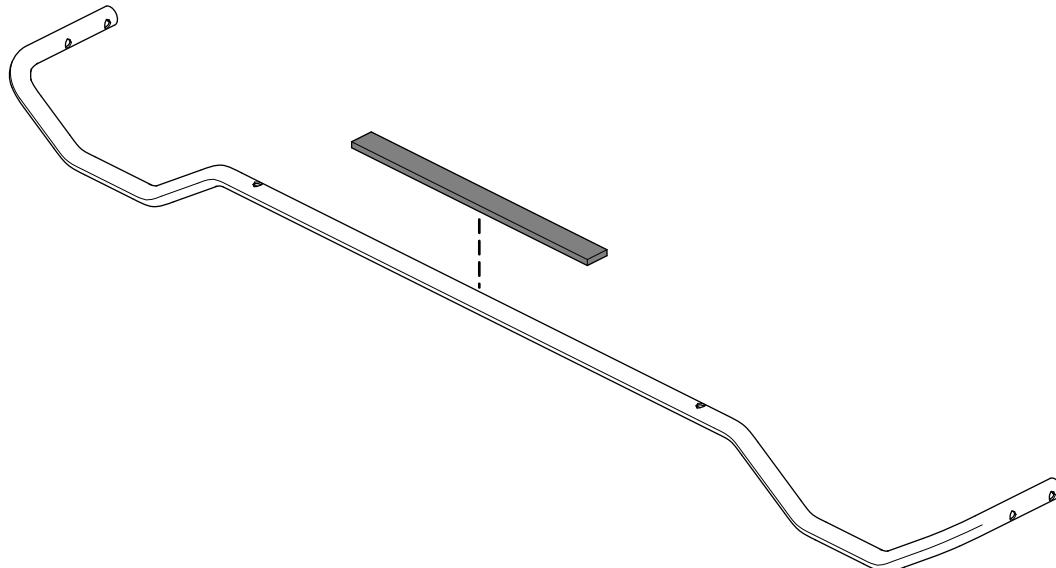

Figure 18
1. Apply the foam pad to the canopy support tube (Figure 18).